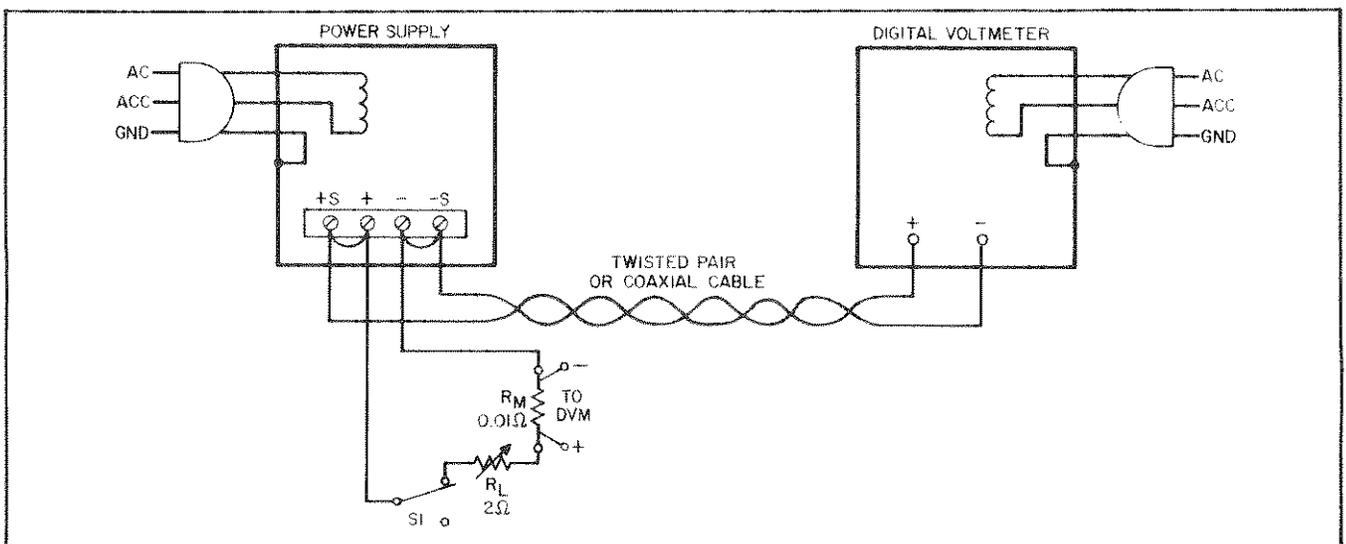

Figure 5-2. Constant-Voltage Test Setup
- a. Connect test setup shown in Figure 5-2. Set  $R_L$  to maximum resistance initially.
- a. Connect test setup shown in Figure 5-2.
- Connect load resistance and digital voltmeter as illustrated in Figure 5-2.
- Connect load resistance and digital voltmeter (DVM) as illustrated in Figure 5-2.